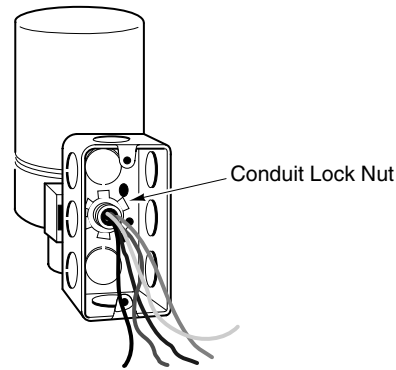

Figure-13 Attachment of Conduit Box to Conduit Bushing.
5. Loosely install the conduit box and the locknut onto the conduit bushing. Refer to Figure-13.